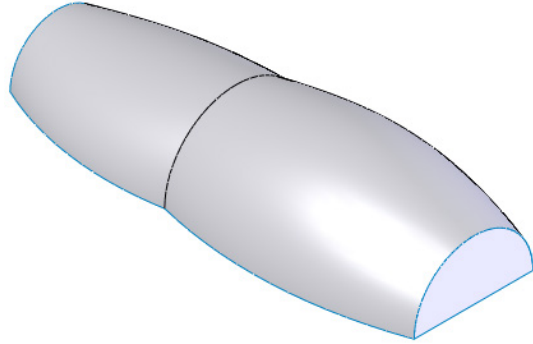

Figure 1-142 Resultant planar surface
7. Invoke the **Planar Surface PropertyManager** and then select the closed sketch from the drawing area. Next, choose the **OK** button from the **Planar Surface PropertyManager**; the planar surface is created, as shown in Figure 1-142.